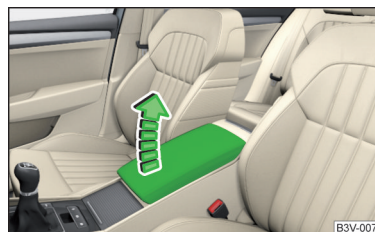

Fig. 69
- To **adjust the height**, lift the armrest in the direction of the arrow into one of the six locking positions » Fig. 69.